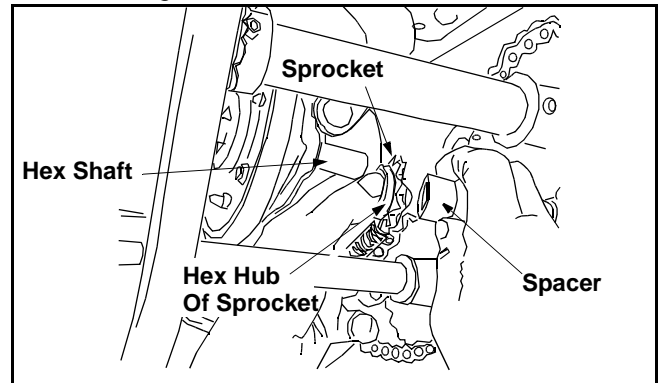

**Figure 20**
- Using a 7/8” wrench, hold the hex shaft and remove the hex bolts and cupped washer and bearing from left side of the frame. See Figure 20.
- Remove the six screws from both sides of the friction wheel assembly and remove friction wheel rubber from between the friction wheel plate. See Figure 20.
- Insert the pin from the shift arm assembly into the friction wheel assembly and hold assembly in position. See Figure 20.